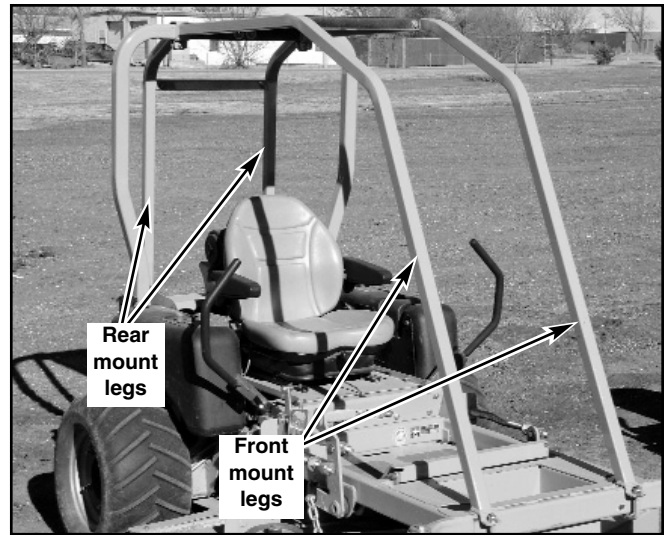

Figure 3-19
3. The front and rear mount legs of the ROPS structure. The two post ROPS structure will remain. Fig. 3-19